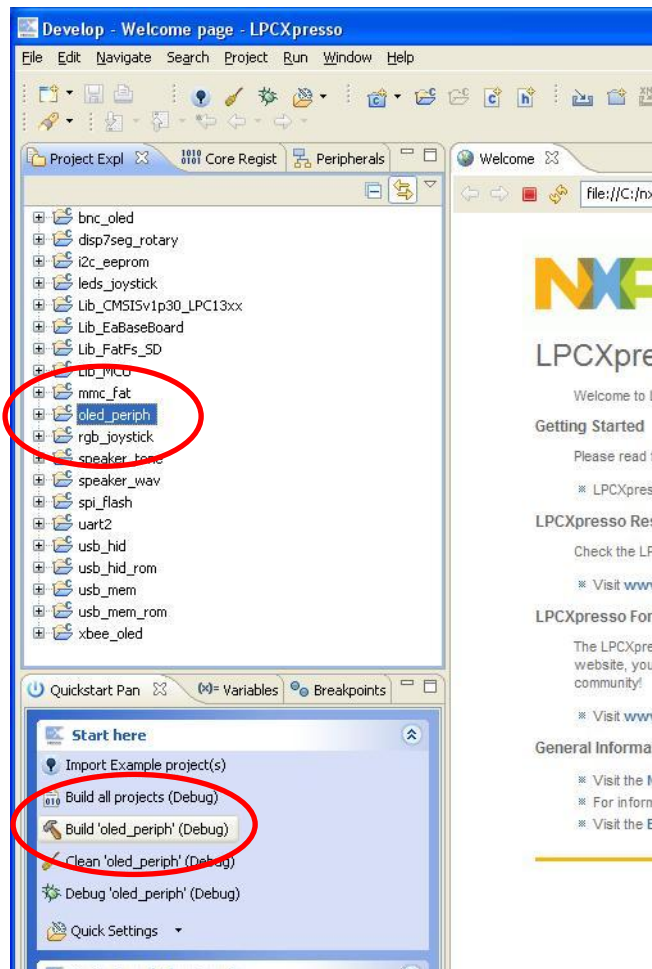

Figure 14 – LPCXpresso Build button
6. Select the project you would like to build and click the Build button in the Quickstart panel, see Figure 14.